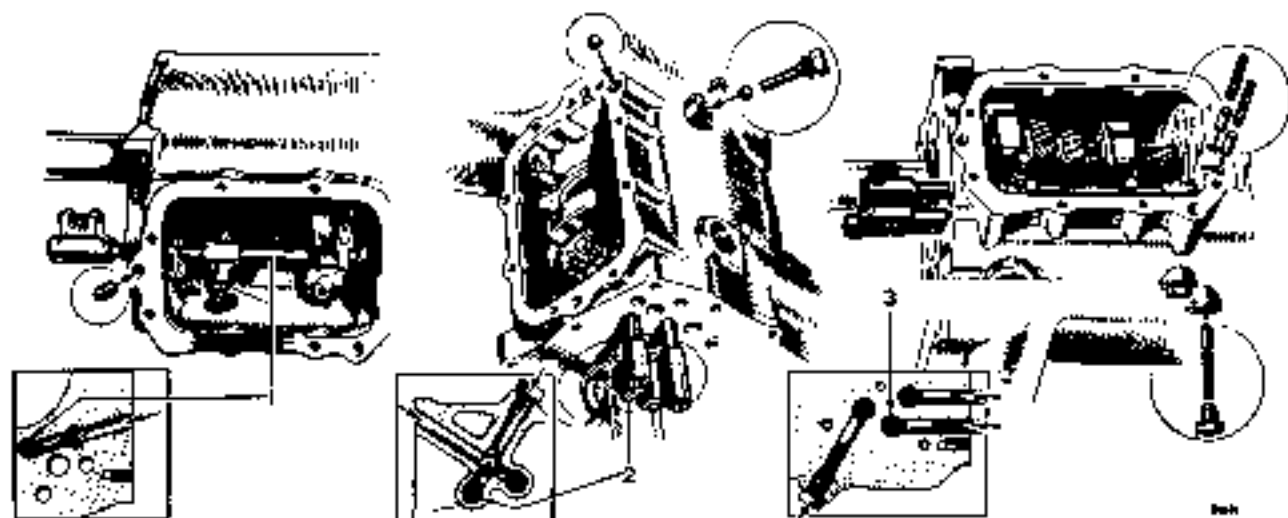

Fig. FF-5
- (1) Position the layshaft gear unit in the gearbox with the correct thrust washer at either end and thread a length of  $\frac{1}{4}$  in. (3.2 mm.) welding
- (2) The layshaft is not inserted until the third motion shaft assembly and first motion shaft have been installed.
- (3) Refit the first motion shaft assembly.
- (4) Replace the reverse gear and shaft. The large gear is to the rear of the gearbox, and a screw-
- (9) Replace the reverse selector rod, identified by the stop pin through the gate, threading it through the bore farthest from the gearbox side cover, the reverse gear fork, and the clearance hole in the third and fourth gear fork. With the gate uppermost, align the locating screw hole and register, replace, and lock the selector fork screw (see Fig. FF-5).
- (10) Replace the first and second gear selector fork and insert the first and second selector rod, identified by the closed gate, in the bore nearest to the side cover. Align the selector fork retaining screw hole with the register on the rod and insert and lock the screw.
- (11) Turn the gearbox over. Align the groove at the rear end of the rod with the double-ended plunger already inserted and insert an interlock ball through the lower drilling in the right-hand corner of the cover-plate face, pushing the ball beyond the third and fourth selector rod bore until it engages the groove in the reverse shaft. Insert a ball through the rearmost of the drillings in the bottom of the gearbox at the front end of the rods. Insert the third and fourth selector rod, engaging the selector fork and aligning the gate with the gates of the other two rods. Replace the plug and fibre washer in the bottom of the gearbox. Align the fork retaining screw hole with the register on the rod and insert and lock the screw.
- (12) Insert the single-ended plunger, round end first, in the foremost of the two drillings in the bottom of the gearbox below the front end of the rods. Follow the plunger with a spring and secure with a plug and fibre washer.
- (13) Clean the mating faces of the gearbox casing and side cover. Insert the first and second rod and third and fourth selector rod locating plungers, round ends first, and the retaining springs (see Fig. FF.5). Replace the side cover and joint seal.
- (14) Clean the rear face of the gearbox housing and fit a new joint seal gasket if the original is damaged. Smear grease on the outer race of the rear bearing and adhere the packing washer. Before replacing the gearbox rear cover ensure that the oil seal, felt, and sliding joint bush are in good condition. To remove the oil seals the outer dust cover should be released from the gearbox casing by cutting with a hacksaw the turned-down edge which registers in a groove in the gearbox. Pull off the dust cover and then remove the oil seal assembly, using Service tool 18G 389 and adaptor 18G 389 A. When reassembling, a new oil seal assembly complete must be fitted (an outer dust cover is not fitted to later gearboxes).
- (15) Fit the rear cover. Replace the speedometer drive pinion and sealing washer.
- (16) Replace the clutch withdrawal lever, inserting the bolt and locking tag washer from the bottom and screwing it into the top lug of the bracket. Tighten the bolt to eliminate side-play from the lever and lock the bolt with the tag washer, nut, and spring washer.
- (17) To reassemble the gear lever ball seating, position the bottom seating so that the two holes parallel with the retaining peg are in front of the lever. Note that one slot in the seating has an enlarged diameter in the centre. Insert the peg, chamfered edge to one side, through this hole and through the ball until the shouldered centre portion is just inside the ball. Turn the peg 90° until the chamfered side is uppermost and push the peg until it is centred.